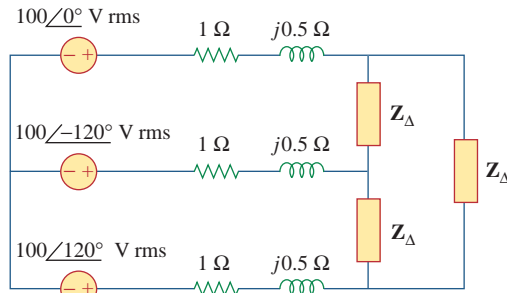

Figure 12.59
- 12.40** For the three-phase circuit in Fig. 12.59, find the average power absorbed by the delta-connected load with $\mathbf{Z}_\Delta = 21 + j24 \Omega$.